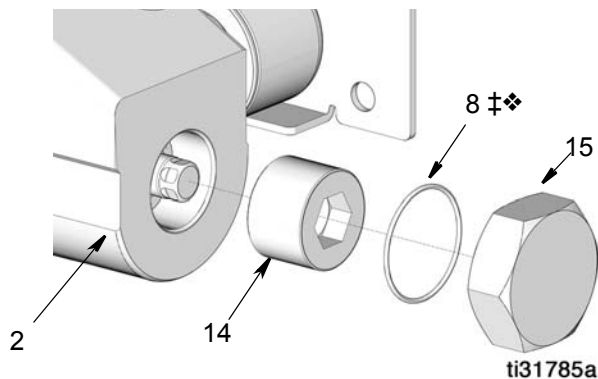

FIG. 24
21. Install nut (14) in pump base (2). Torque to 100 to 105 ft.-lbs (135.6 to 142.4 N•m) (FIG. 24).
22. Lubricate o-ring (8‡❖). Install o-ring and pump end nut (15) in pump base (FIG. 24). Torque end nut to 45 to 50 ft.-lbs (61.01 to 67.79 N•m).